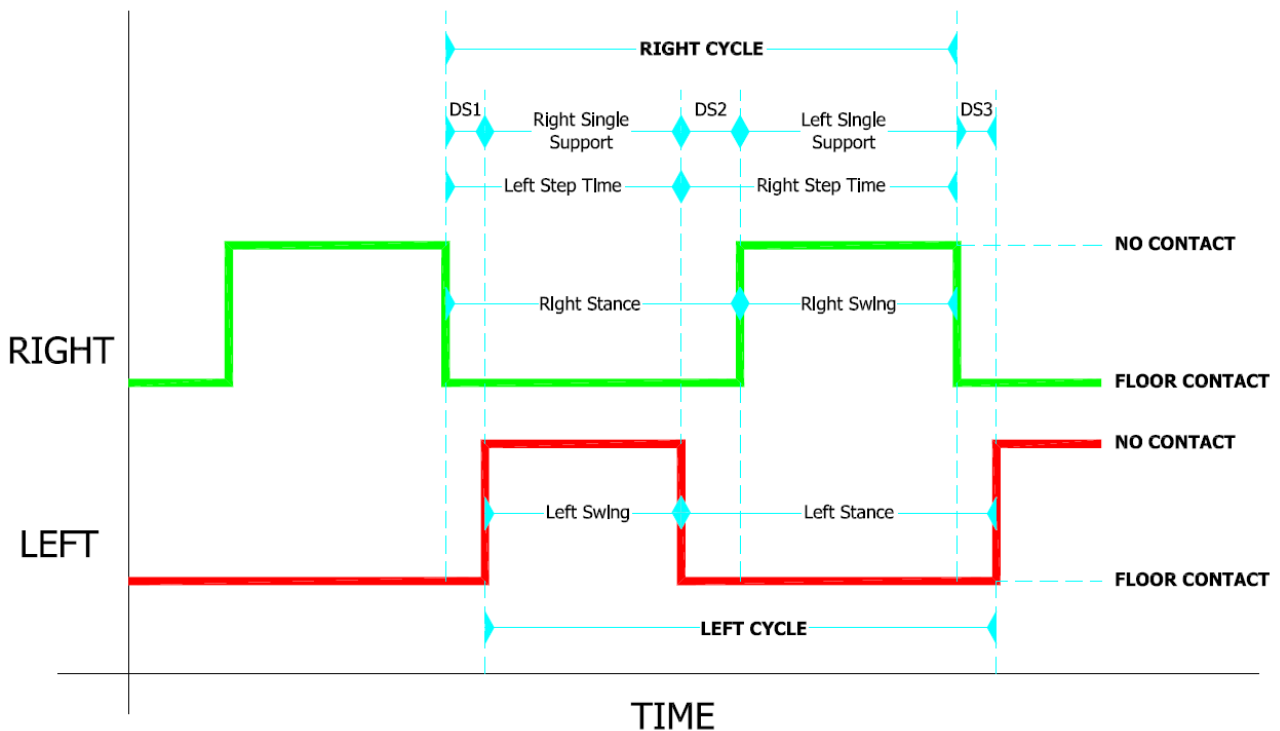

Figure 128 - Gait analysis terminology
- **Total Double Sup [s | %]:** This is the sum of two partial double supports, defined DS1 and DS2 in Figure 128
- **Load Response [s | %]:** This is the first Double Support Time (DS1 in Figure 128)
- **Pre Swing [s | %]:** This is the second Double Support Time (DS2 in Figure 128)